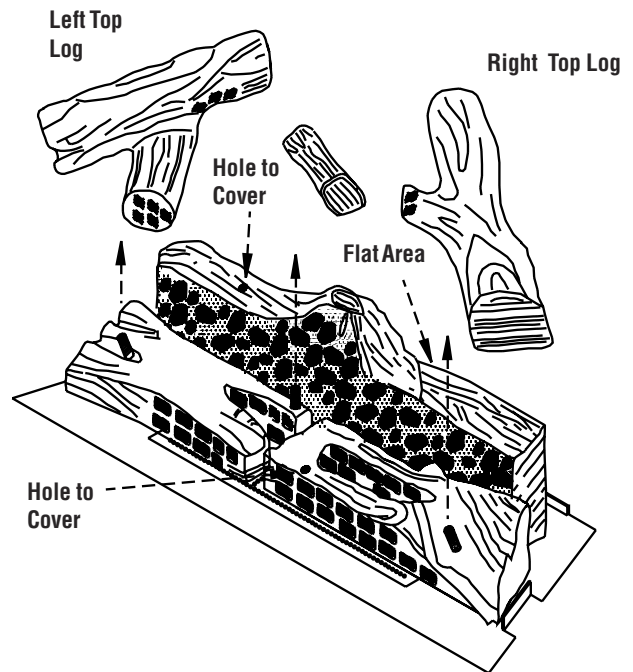

Figure 12
- 6) The small straight top twig (3021) should be turned so the black flat end is turned to the rear. Slide the holes in the bottom of this twig over the right peg on the left front log and the hole on the right front log. See Figure 12.
- 7) The left top log (3019) should be positioned as shown in Figure 12. Slide the holes in the bottom of this log over the hole in the left end of the rear log and the peg in the left end of the left front log. The right top log (3020) should be positioned as shown in Figure 12. Slide the holes in the bottom of this log over the peg in the right end of the right front log and rest it on the flat spot on the rear log.